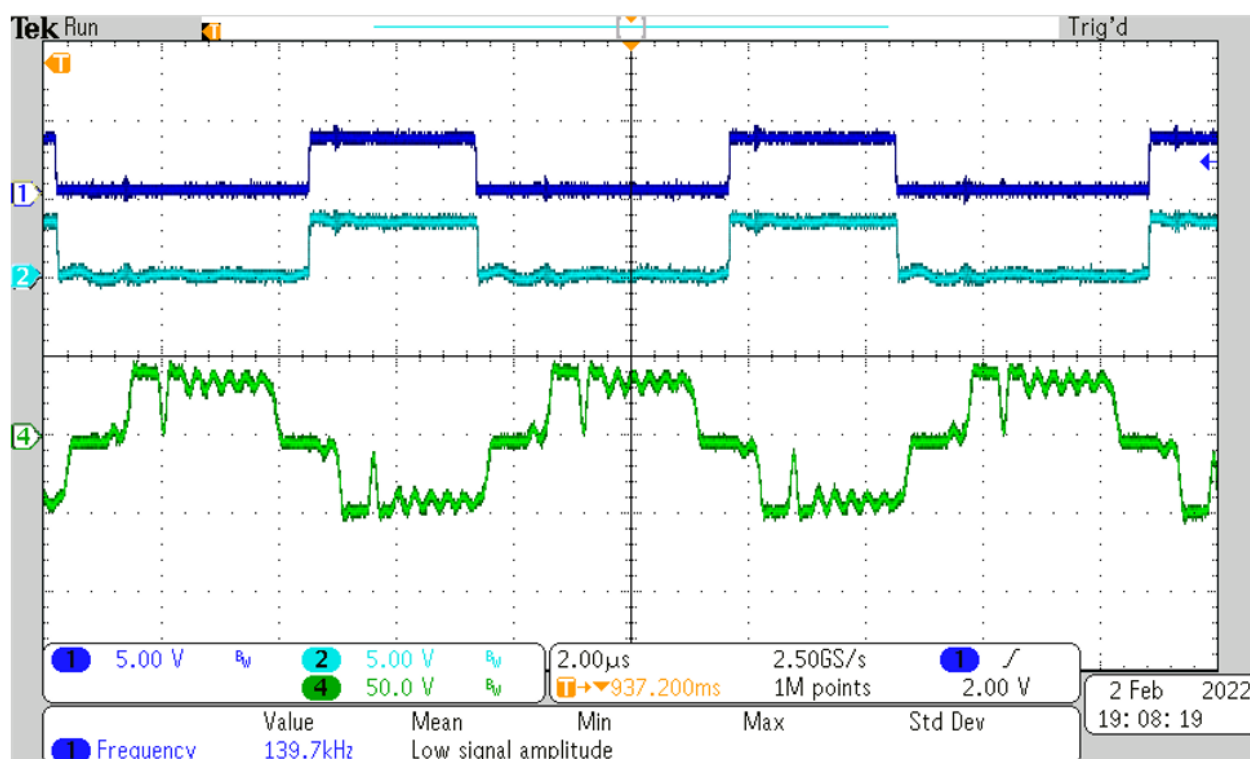

Figure 14 – SR PWMs waveforms under SR mode 1
16. Automatic SR mode switching function is enabled in Lab1. The variable *PSFB\_SR\_switching\_enable* is set to 1 indicating that the automatic SR switching is enabled. Based on the value entered for *PSFB\_gui\_icommand\_Set\_Amps*, the SR mode will be set to 0, 1 or 2 (valid three values only) indicating SR mode 0, SR mode 1 and SR mode 2 respectively. Observe the corresponding PWM3 and PWM4 waveforms as the SR modes are changed. Now set the load to 6.5 ohm and *PSFB\_gui\_icommand\_Set\_Amps* to 5. Verify that the SR mode changes to 0 to 1. Verify that the SR PWM waveforms under this condition match with those illustrated in Figure 14 where Ch 1 is SR PWM3B, Ch 2 is SRPWM 4A and Ch 4 is the transformer secondary voltage. The output voltage at this point should be about 26V. The code for run-time SR PWM (PWM3A, PWM3B, PWM4A and PWM4B) signal configuration and generation, under different SR modes, can be found inside the function *PSFB\_pcmcControlCode()*. This function is executed every time the interrupt ISR1 is triggered and the corresponding ISR function *ISR1()* is executed. The function *PSFB\_pcmcControlCode()* resides inside the file named *psfbpcmc.h* and the ISR function *ISR1()* resides inside the file named *psfbpcmc\_main.c*.